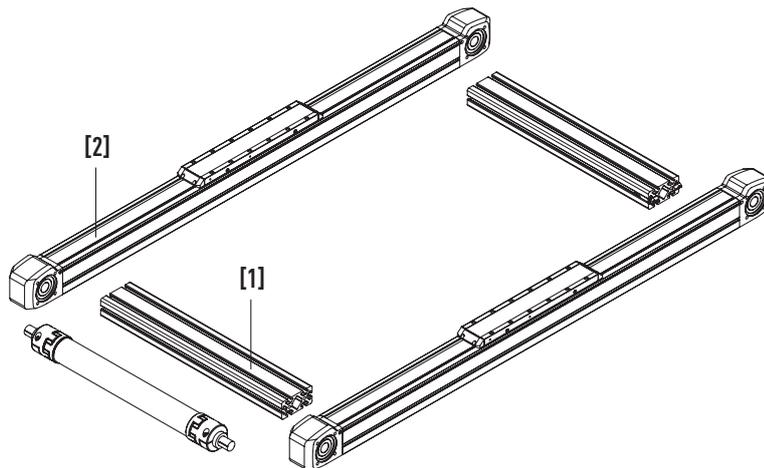

Fig. 6.1 Positioning of the spacer profiles [1] and the linear axis [2]
- ▶ Clean the mounting surface and position the spacer profiles [1] between the linear axes [2] (see Fig. 6.1).